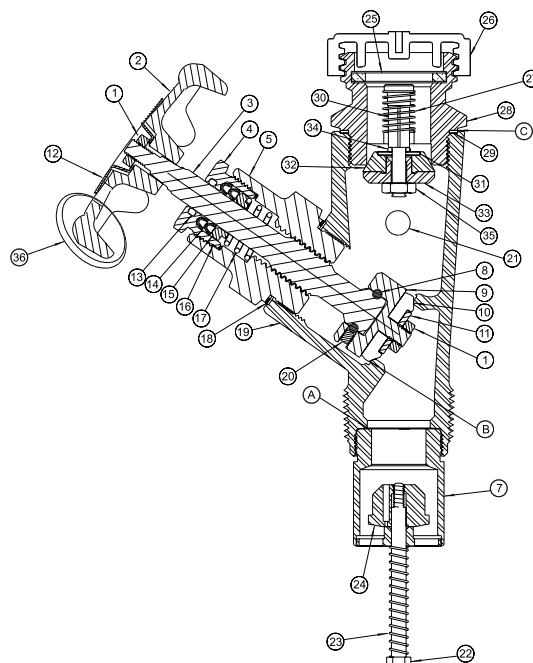

FIG. 1
- Step 3: Refer to figure 1 for the following steps depending on the type of repair required (i.e. Seal Kit Replacement, Bonnet Assembly, etc...).